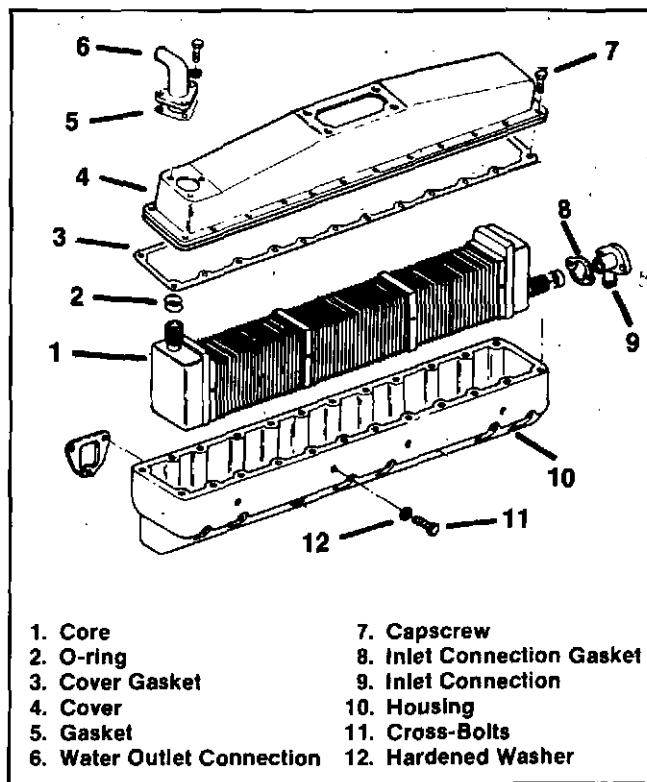

Fig. 10-2 (N10899). Cross-Bolt Design Aftercooler — Exploded View.
1. Put the aftercooler housing (10, Fig. 10-2) on a workbench. Hold the housing so that it will be in the same position as it is on the engine.
2. Apply clean lubricating oil to the new O-rings (2). Install the O-rings to the inlet and outlet fittings of the element (1). Install the element into the housing.